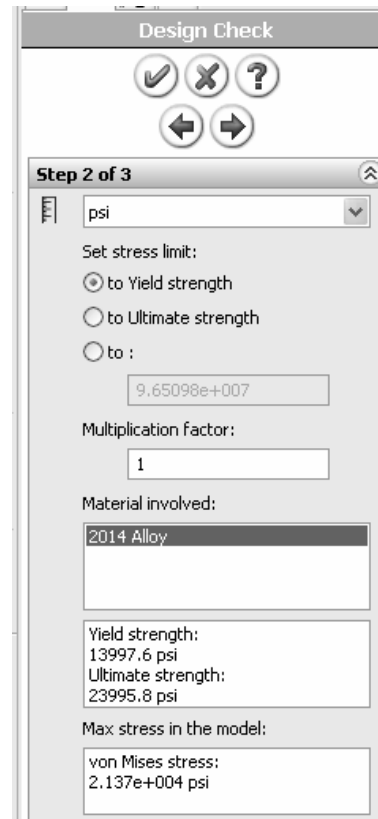

Figure 21 – Step 2 of 3 in the **Design Check** process.
5. Proceed to the next step by clicking the right facing arrow button  at the top of this property manager. The **Design Check, Step 2 of 3** dialogue box appears as shown in Fig. 21.